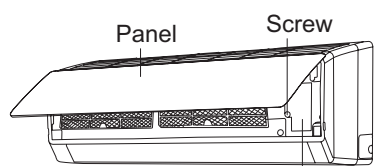

Fig.11 Wiring cover
(1) Open the panel, remove the screw on the wiring cover and then take down the cover.(As show in Fig.11)